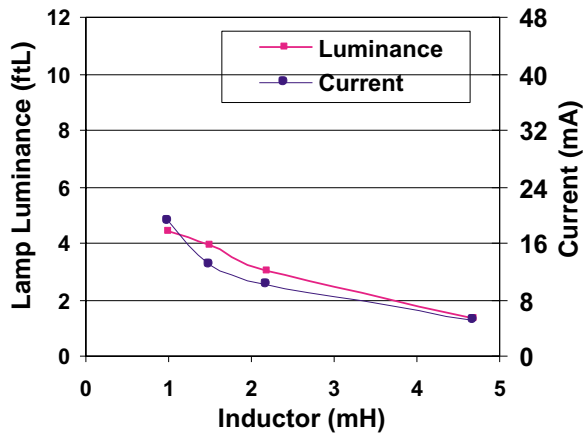

Figure 3: $V+=1.5V$, 1 in^2 EL Lamp
The external inductor (L) selection for a D356A circuit greatly affects the output capability and current draw of the driver. A careful designer will balance current draw considerations with output performance in the choice of an ideal inductor for a particular application. Figures 3, 4, and 5 show typical brightness and current draw of a D356A circuit with different inductor values, lamp sizes, and supply voltages. Please note that the DC resistance (DCR) of inductors with the same nominal inductance value may vary with manufacturer and inductor type. Thus, inductors made by a different manufacturer may yield different outputs, but the trend of the different curves should be similar. Lamp luminance is also a function of lamp size. In each example, a larger lamp will have less luminance with approximately the same current draw.